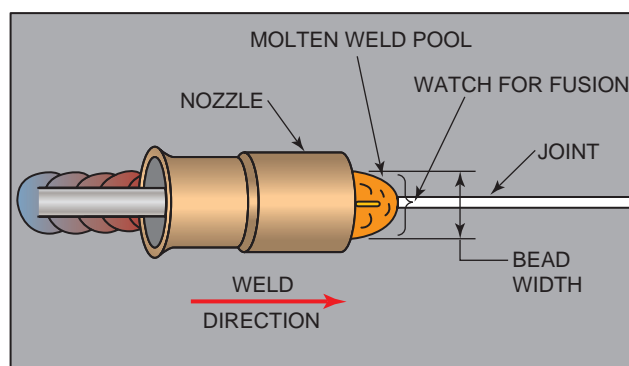

FIGURE 13-15 With forehand welding, the weld joint is visible in front of the molten weld pool.
- **Joint visibility**—you can easily see the joint where the bead will be deposited, Figure 13-15.